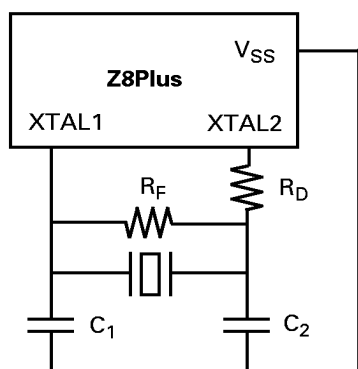
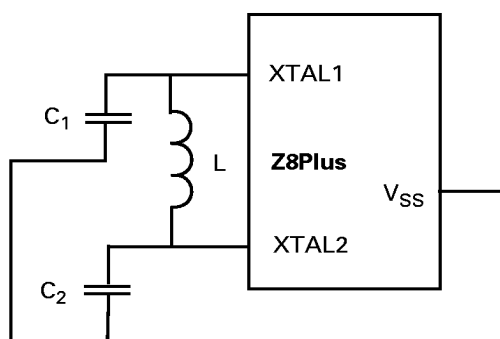
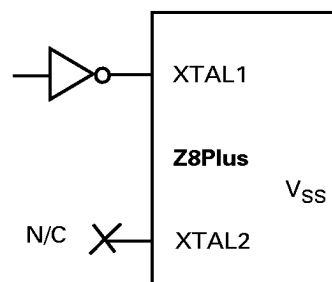

Figure 16. Crystal/Ceramic Resonator Oscillator
Figure 17. LC Clock
Figure 18. External Clock
Crystals and ceramic resonators (Figure 16) should exhibit the following characteristics to ensure proper oscillation:
Depending on the operation frequency, the oscillator may require additional capacitors, C1 and C2, as illustrated in Figure 16 and Figure 17. The capacitance values are dependent on the manufacturer’s crystal specifications.
Figure 16, Figure 17, and Figure 18 recommend that the load capacitor ground trace connect directly to the  $V_{SS}$  (GND) pin of the Z8Plus. This requirement assures that no system noise is injected into the Z8Plus clock. This trace should not be shared with any other components except at the  $V_{SS}$  pin of the Z8Plus.
The Z8Plus oscillator can use an inductor capacitor oscillator (LC) network to generate an XTAL clock (Figure 17).